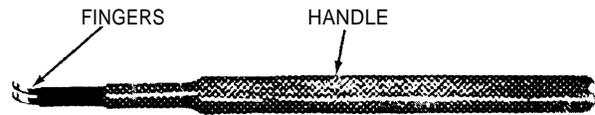

Figure 9. Wire Removal Tool (EC-10731-A).
5.02 The wire removal tool, (see Figure 9), is designed for exclusive use on the quick-connect terminal blocks. No other type of wire removal tool is to be used on these blocks.